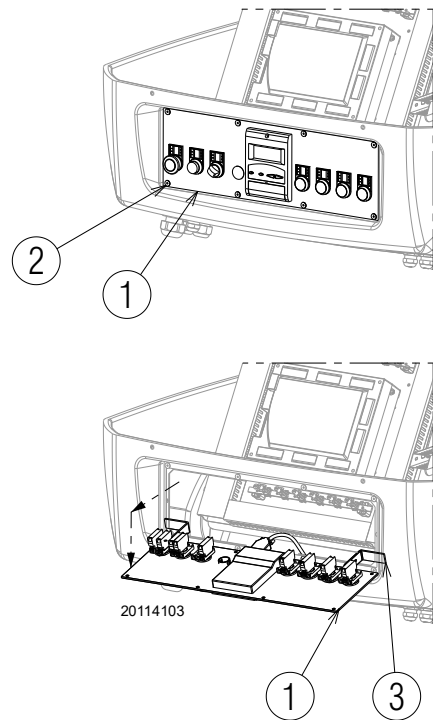

Fig. 40
- extract the control panel 1) and turn it 90°, hooking it with the brackets 3) in the profile of the electrical panel as shown in Fig. 40;